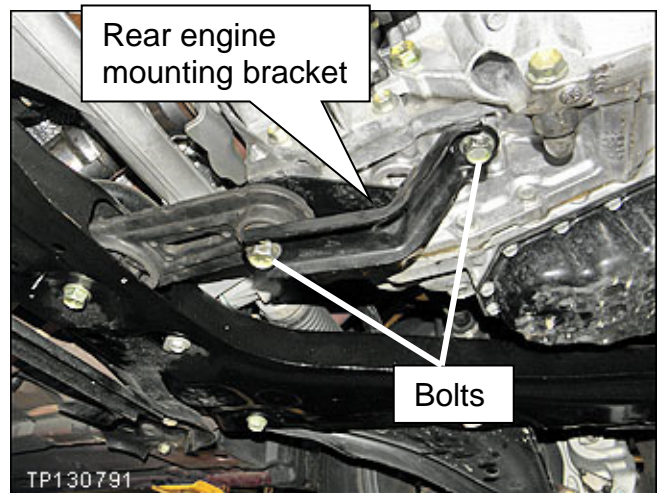

Figure 15
- a. Remove 2 bolts shown in Figure 15.